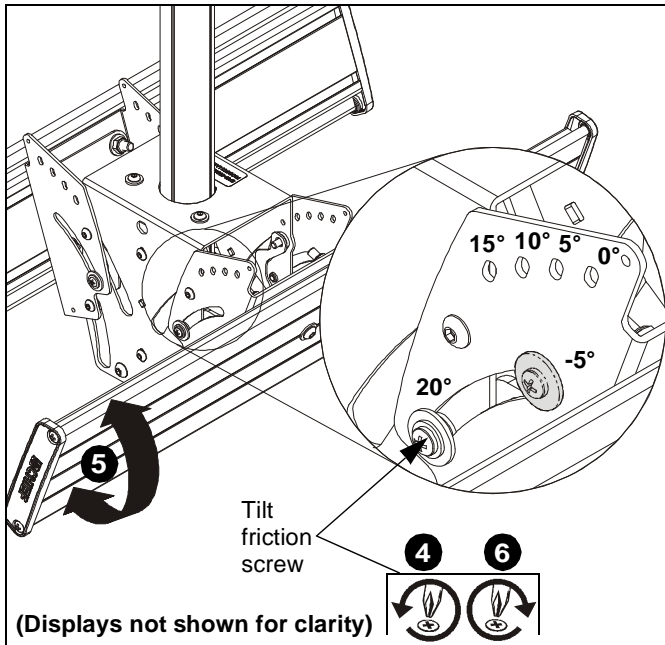

Figure 11
4. Loosen two tilt friction screws (located each side). (See Figure 11)
5. Adjust tilt as required. Note specific degrees of tilt. (See Figure 11)